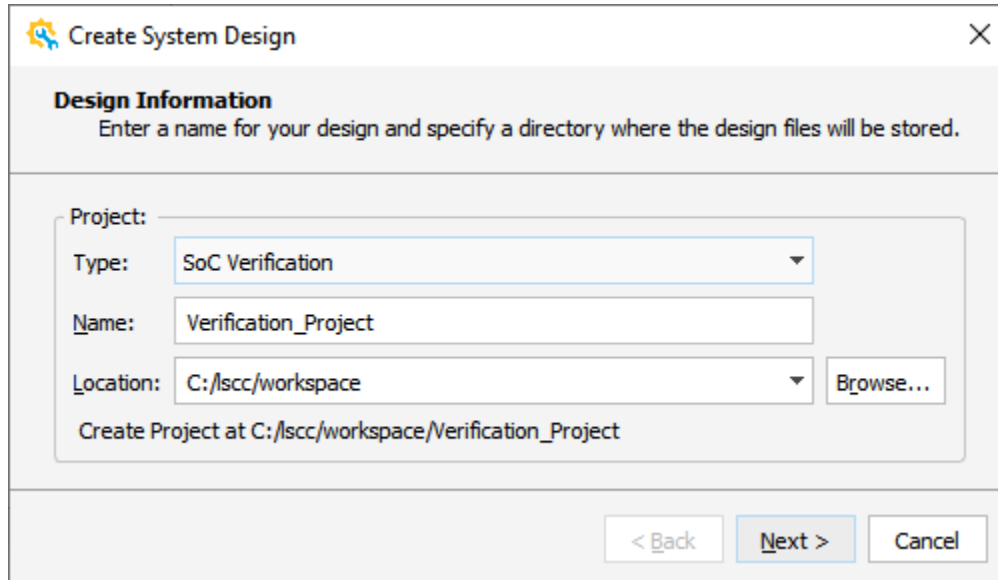

Figure 2.84. Create System Design – Design Information Wizard
1. Choose **File** >  **New Design** from the Lattice Propel Builder Menu Bar. The Create System Design wizard opens (Figure 2.84).